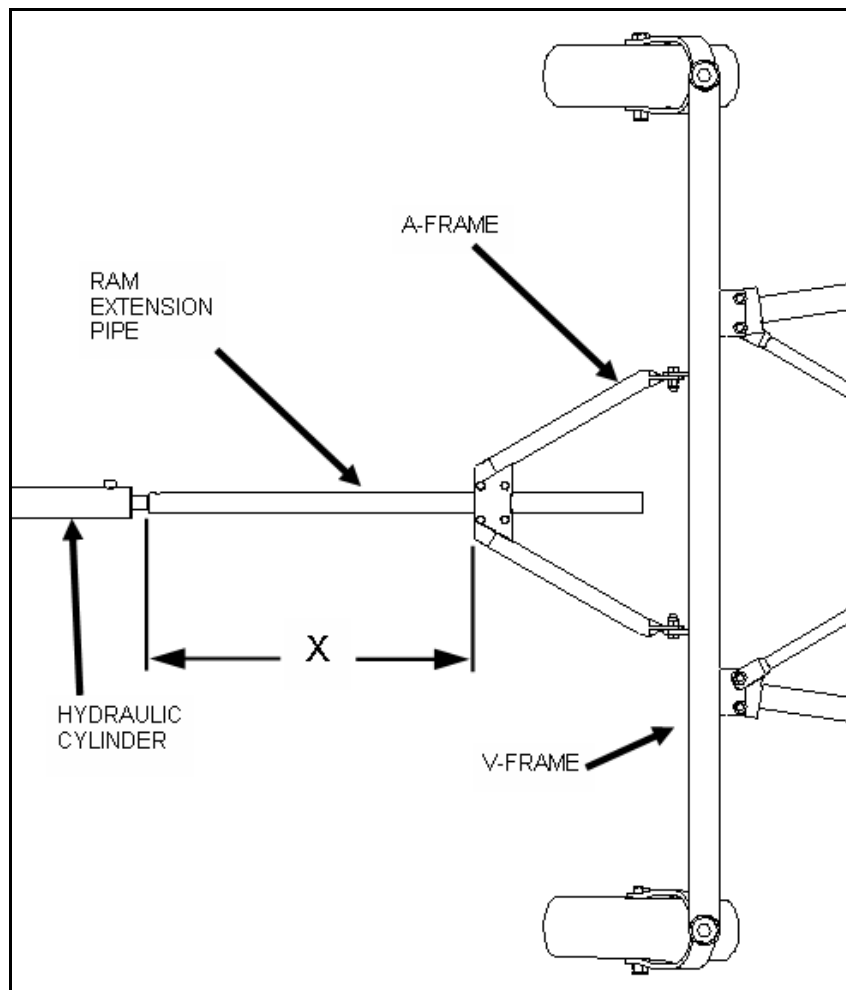

Figure 3.12 Ram Extension Installation
9. The ram extension slides into the A-frame attached to the tabs on the V-frame as shown in Figure 3.12. The ram extension length must be set at the proper distance from the ram mounting A-frame for proper operation of the transport kit. To set the ram extension length, elevate the V-frame to adequately clear the ground, but not interfere with the auger support arms.
The ram extension length must be set at the proper distance from the ram mounting A-frame for proper operation of the transport kit (see Table 3.1 or 3.2, and Figure 3.12).